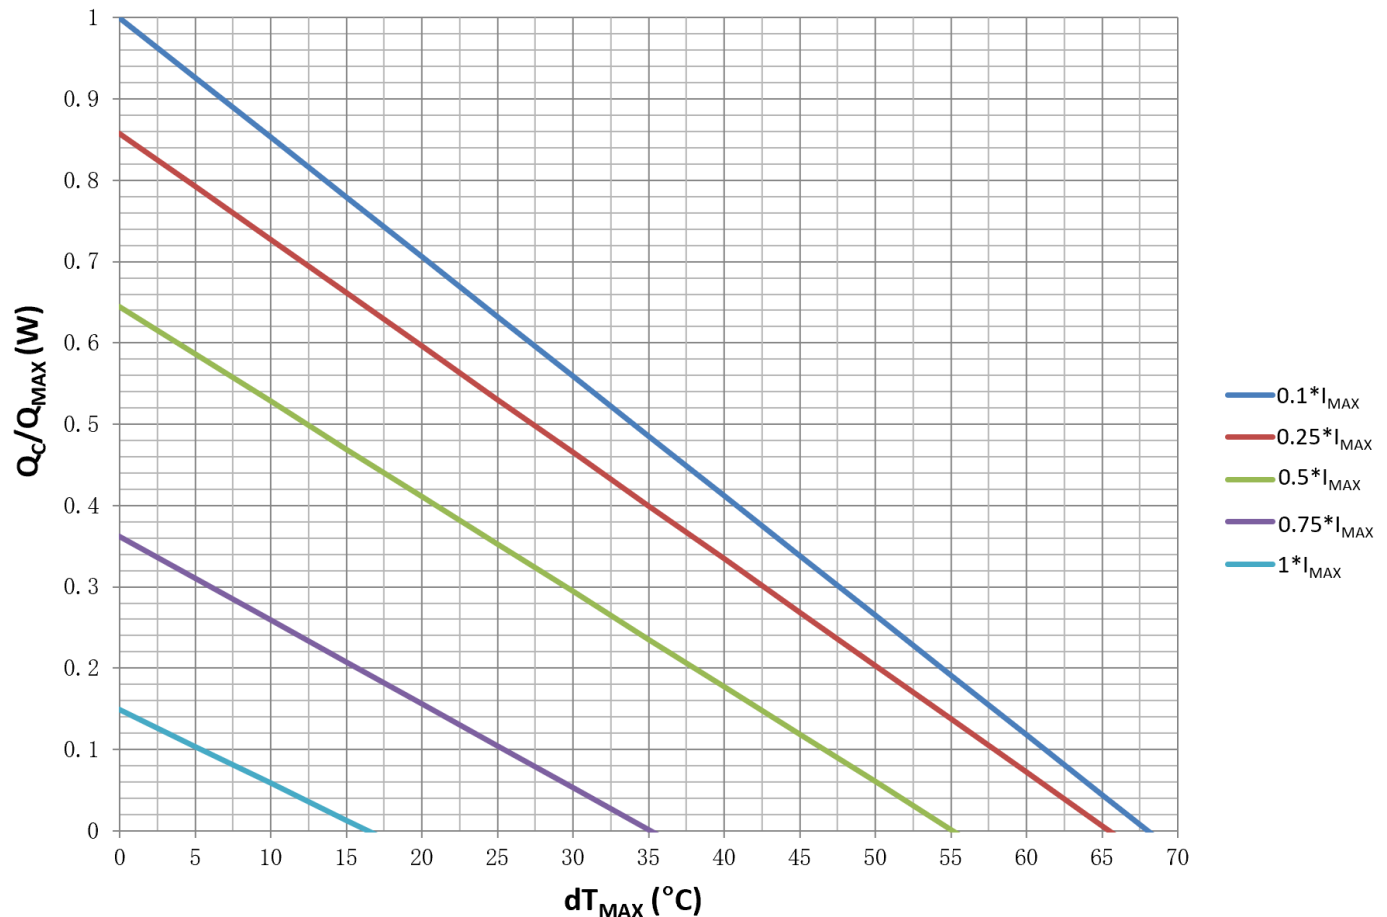
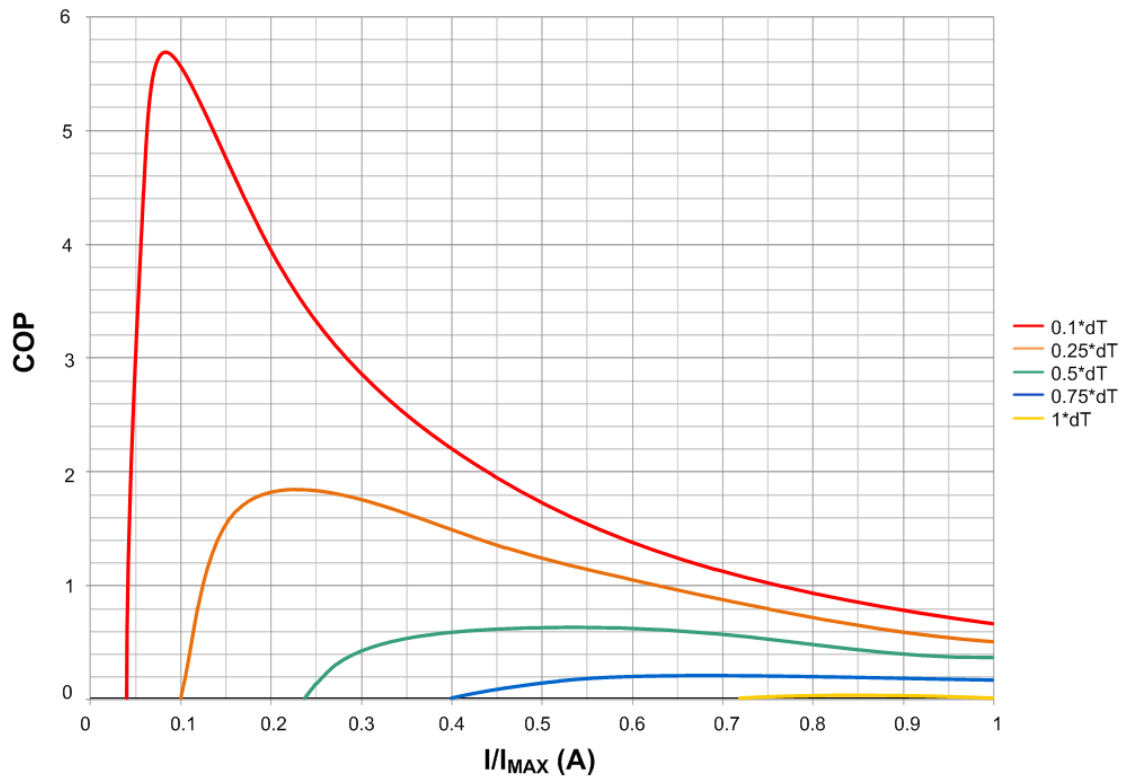
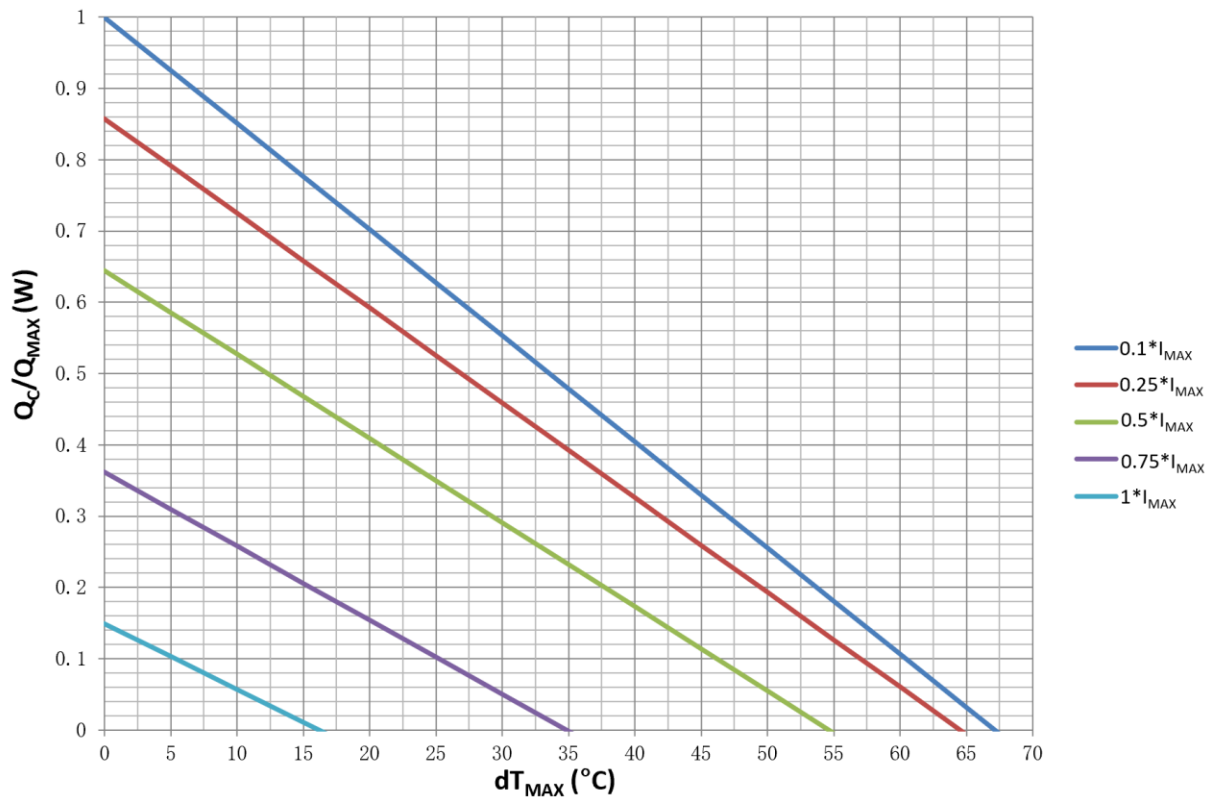
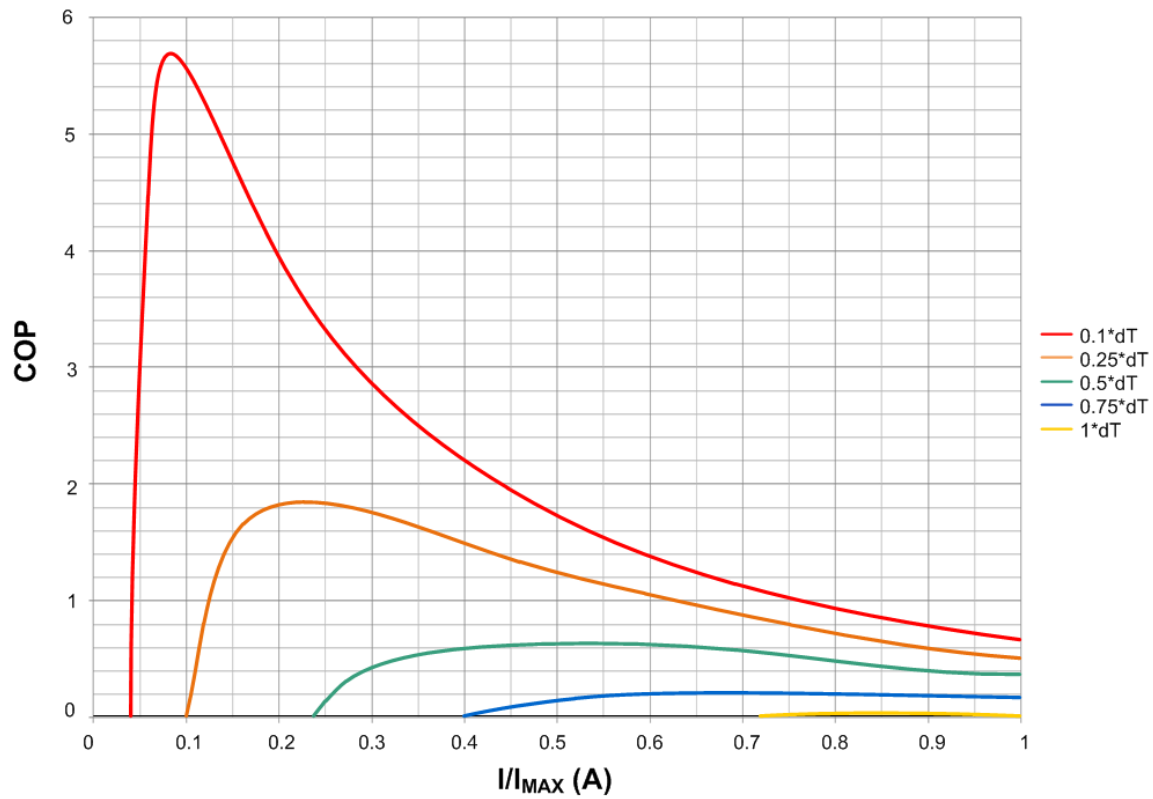

Figure 2. Q_c/Q_{MAX} vs. dT_{MAX}
Figure 5. COP vs. I/I_{MAX}
Figure 6. Q_C/Q_{MAX} vs. dT_{MAX}
Figure 9. COP vs. I/I_{MAX}
- Use the charts provided in Figure 2 to Figure 5 and Figure 6 to Figure 9, to decide which TEC to use, what is the heat needed to be dumped through the heat sink, what is the heat sink temperature, etc.